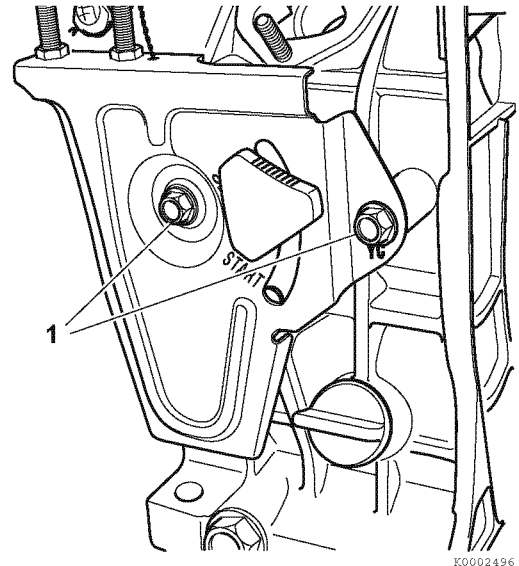

Figure 6-83
- Remove the bolts (1, **Figure 6-83**) that retain the speed control assembly.